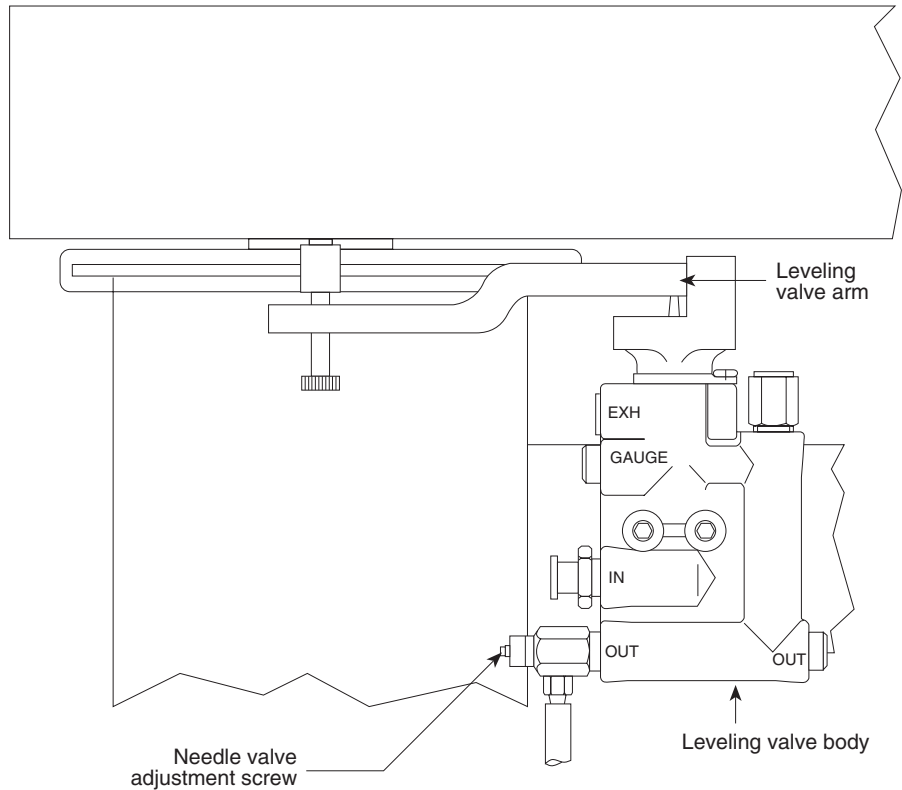

Figure 2.6 — Leveling Valve
- B. Fully close (turn clockwise) the needle valves located on the leveling valves (Figure 2.6). Then open each needle valve approximately 1/8 turn for each isolator the valve supplies, i.e. the single valve at the right side of the IsoStation controls the two right side isolators and must be opened 1/4 turn.